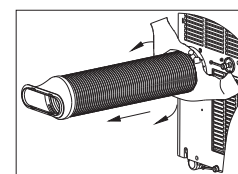

Fig. 30
- Unscrew the exhaust hose to the right or left and pull out for uninstallation(Fig.30), keep it safety, and cover the window(wall) hole with the adaptor cap.